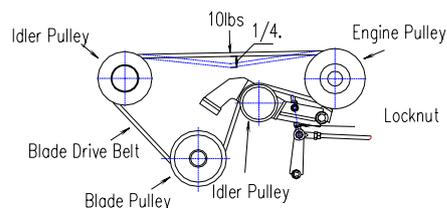

FIG7
- Adjust the mower deck belt using a belt tension gauge. The blade drive lever is engaged, tension the mower belt, and adjust the belt so that the belt moves 1/4" with 10 pounds of pressure. Adjust the tension by tightening or loosening the nut. FIG7